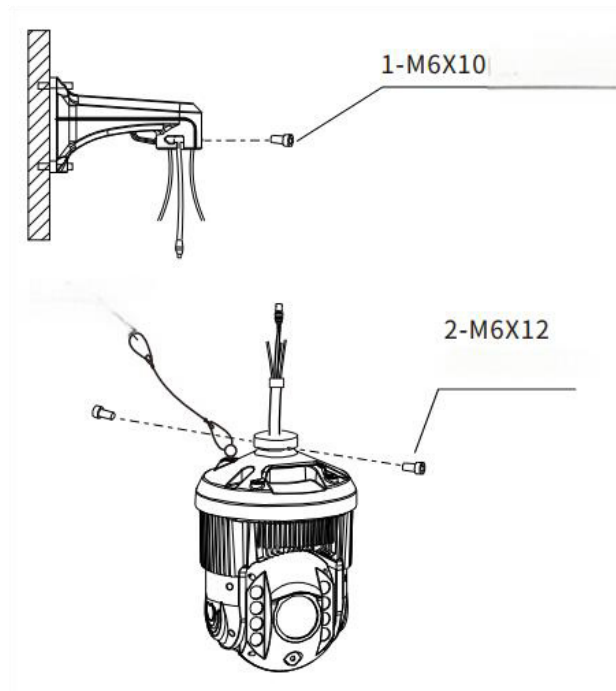

Figure 1-3-3
(4) The connecting cable is led out from the inner cavity of the wall-mounted bracket; find 3 hexagon socket screws in the accessory bag, including 2 M6×12 hexagon socket screws, and install them in the M6 threaded hole of the dome connector. Install the M6×10 hexagon socket screws to the M6 screw holes on the wall mounting bracket. Do not tighten the three screws yet; find the safety rope and fasten one end of it to the PTZ camera lifting ring. (As shown in Figure 1-3-3)